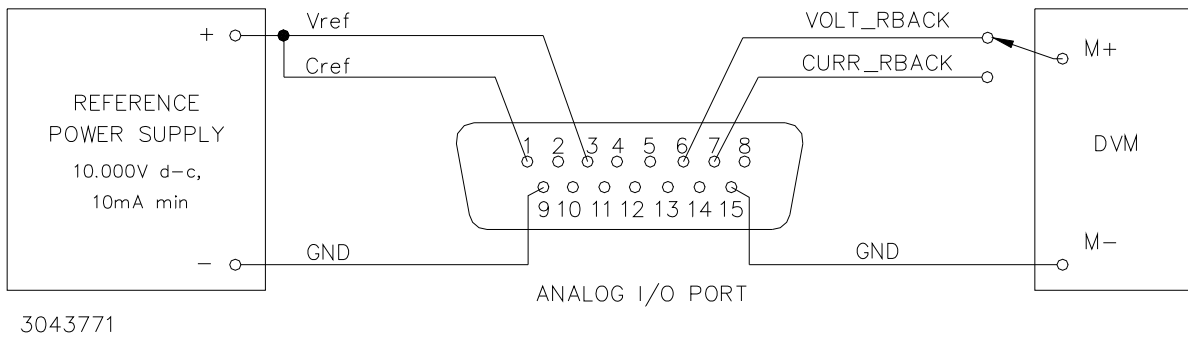

FIGURE 4-1. ANALOG PORT WIRING FOR CALIBRATION
5. Configure the mating I/O connector (provided with unit) to access the input programming signals (Vref and Cref) and output readback signals (VOLT_RBACK and CURR_RBACK) as shown in Figure 4-1. Note that the wires to Vref and Cref should be tightly twisted with the corresponding GND wire and kept as short as possible. Then connect the I/O mating connector to the Analog I/O port of the power supply.
- Tap the **DC OUTPUT** switch to accept the value; the status display now reads **OUTV**. At the ANALOG I/O PORT J2, connect the DVM to VOLT_RBACK and GND as shown in Figure 4-1. Rotate the **VOLTAGE** control to increase or decrease the output voltage until the DVM reads as close as possible to 10V.
5. Tap the **DC OUTPUT** switch to accept the value; the status display now reads **OUTC**. At the ANALOG I/O PORT J2, connect the DVM to CURR_RBACK and GND as shown in Figure 4-1. Rotate the **CURRENT** control to increase or decrease the output voltage until the DVM reads as close as possible to 10V.
9. If password is correct, the status display on the VXI main panel reads CAL and the buttons on Calibration Screen (Figure 4-1) are enabled (highlighted). If the password is incorrect, the password text box displays “WRONG #”. Repeat step 7 to enter the correct password, or click the **Calibrate Close** button on the VXI main panel to exit calibration.
3. Click the **Press to ACCEPT** button to accept the value; the status display now reads **OUTV**. At the ANALOG I/O PORT J2, connect the DVM to VOLT_RBACK and GND as shown in Figure 4-1. Click the “+” button to increase and the “-” button to decrease the output voltage until the DVM reads as close as possible to 10V.
5. Click the **Press to ACCEPT** button to accept the value; the status display now reads **OUTC**. At the ANALOG I/O PORT J2, connect the DVM to CURR_RBACK and GND as shown in Figure 4-1. Click the “+” button to increase and the “–” to decrease the output current until the DVM reads as close as possible to 10V.